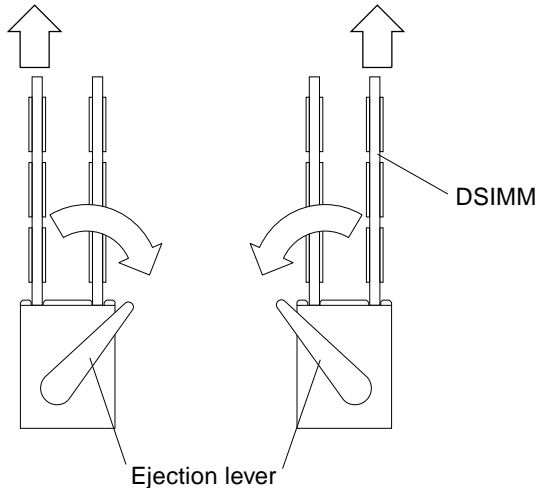

FIGURE 10-14 DSIMM Ejection Lever
5. Push the ejection lever away from the DSIMM (FIGURE 10-14).